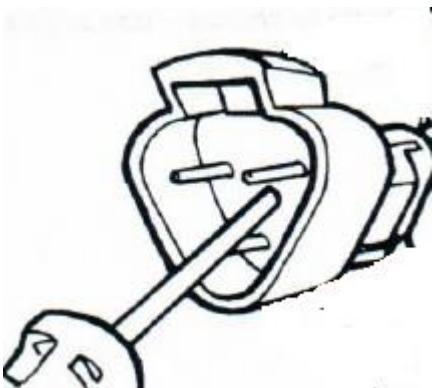

Figure 214
26. To remove the contacts, gently pull the wire backwards while releasing the lock finger by pushing the contact to the center of the connector. Figure 214